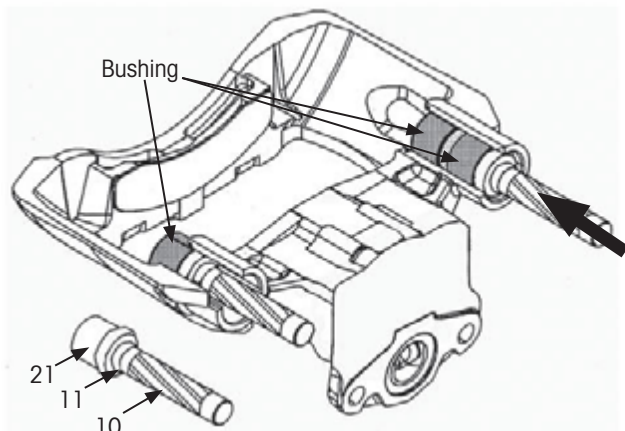

Figure 54: Removing caliper guide pin bushings
4. Assemble and use 10, 11 and 21 to press the bushings out of the brake caliper (Figure 54).